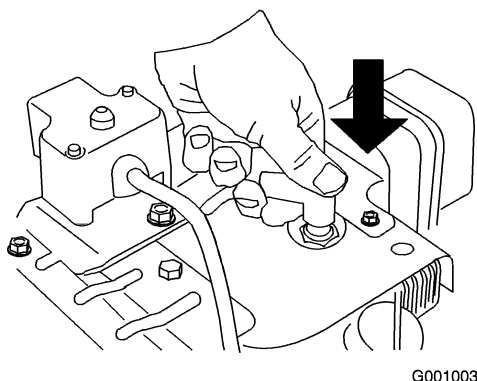

Figure 19
1. Connect the spark plug wire (Figure 19).